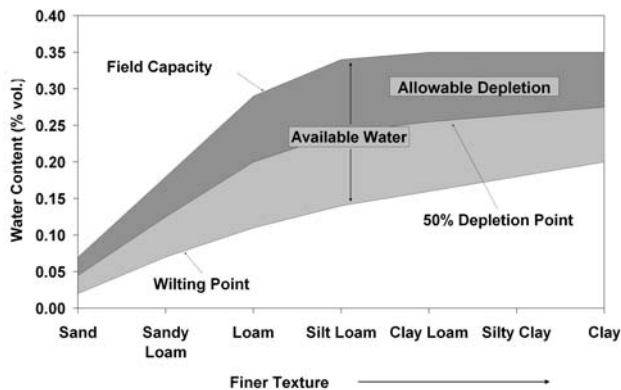

Figure 2. The amount of allowable depletion, or the readily available water, represents about 50 percent of the total available water.
berries, the amount of allowable depletion, or the *readily available* water represents about 50% of the total available water in the soil. (Figure 2.)
- Crop coefficient is 0.95 (Figure 2).